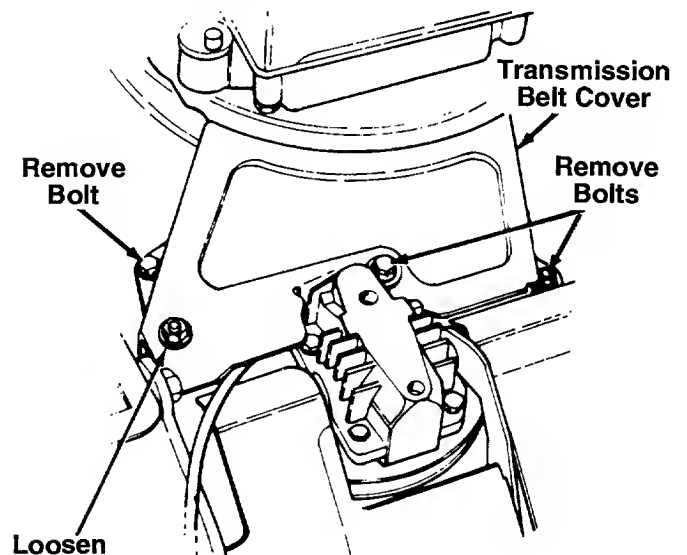

FIGURE 11.
3. Remove the transmission belt cover by removing three bolts. See figure 11.